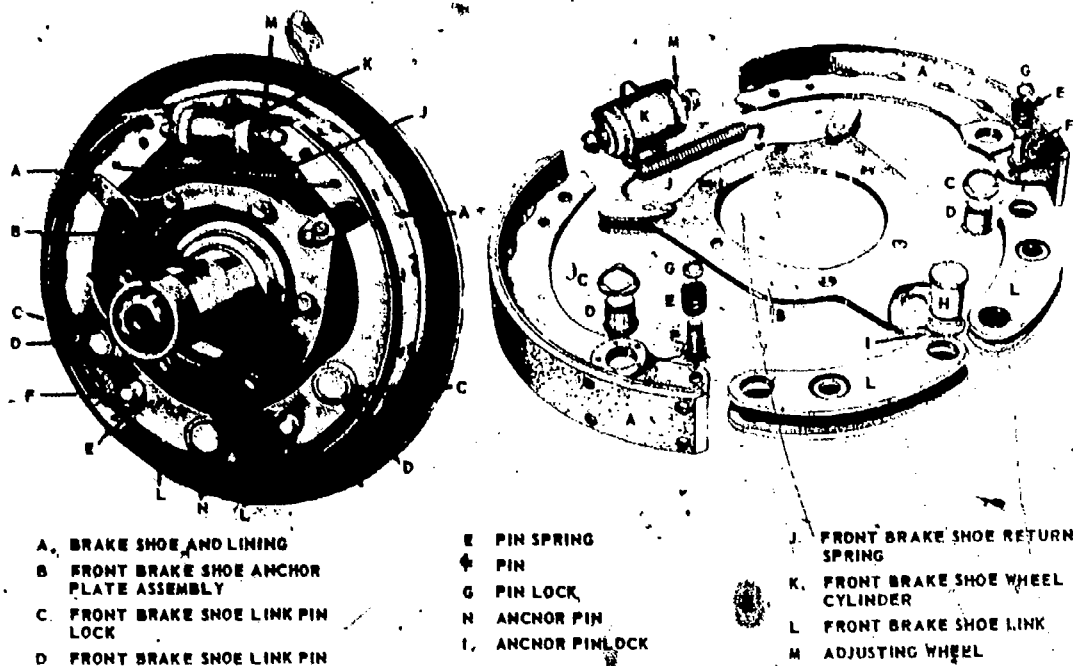

Fig 2-54. Internal-expanding wheel brake.
(2) Internal-expanding brakes (fig 2-54).